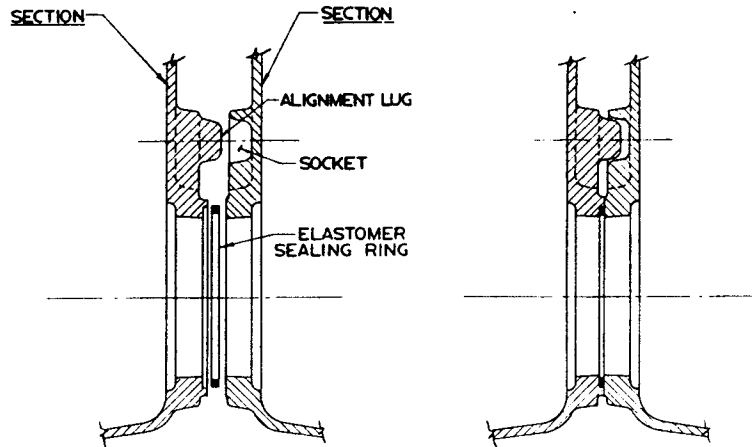

FIGURE 4
- a. Position the intermediate section so that the aligning lugs will fit into the sockets of the adjacent section (see FIGURE 4). Oil the threads of four (4) of the longer draw rods (5/8" x 13") and slip them through the lugs on the top and sides of each section. Place a washer (only one washer per draw rod) under each nut to be tightened, with a drop of oil between washer and nut.